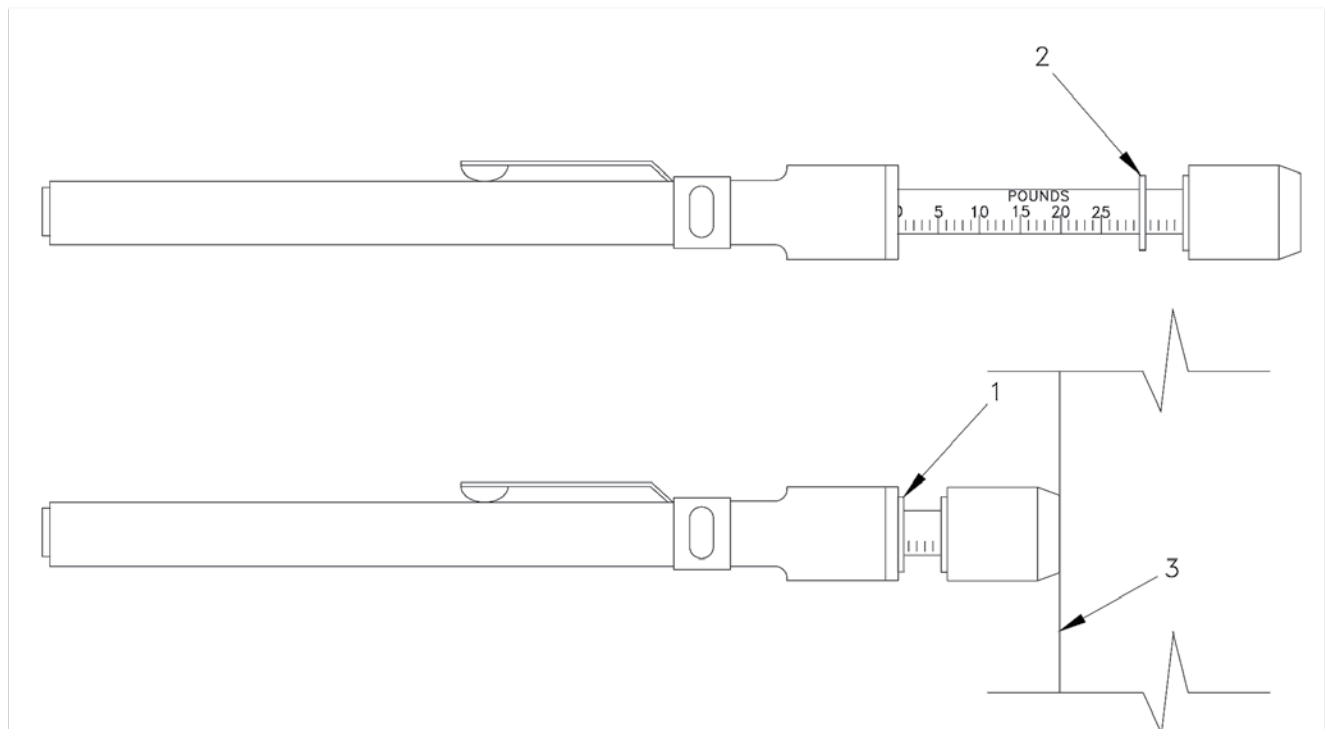

Figure 55 Checking Door Closing Force
1. To check the door closing force, physically stall the door at the midpoint in the closing direction. Then, place the rubber end of a pressure gauge (1) on the edge of the power-driven car door (3). See Figure 55.
2. Back-off the gauge until the door starts moving. Read the pounds of force (2) on the gauge and record the results.